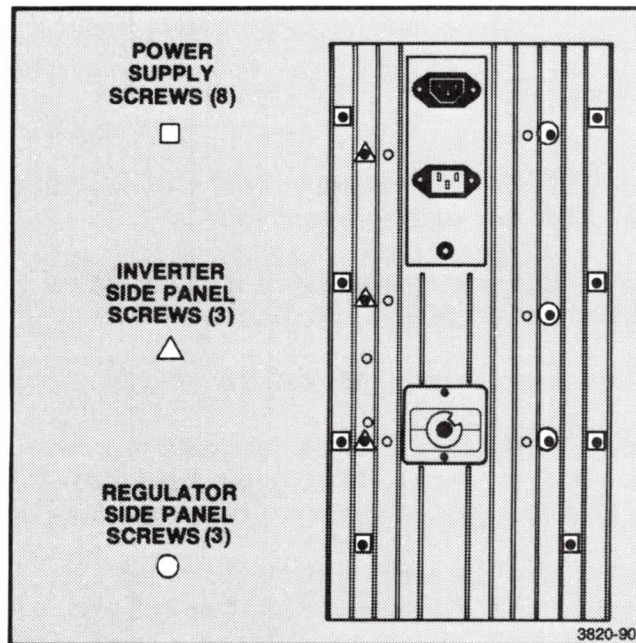

Figure 11-14. Power Supply Heatsink.
9. Remove the eight screws on the back of the heat sink which hold the power supply in place. Six of the screws are in the first groove from the left and right edges -- three on each side. The last two screws are located in the second grooves from the left and right edges -- the lowest screws in that groove. (See Figure 11-14.)
2. Remove the aluminum inverter shield. There are three screws on the heatsink and three screws on the backing plate. (See Figures 11-14 and 11-15.)
7. Remove the two screws holding the switching transistors and plastic shield covers to the heat-sink. See Figure 11-14.